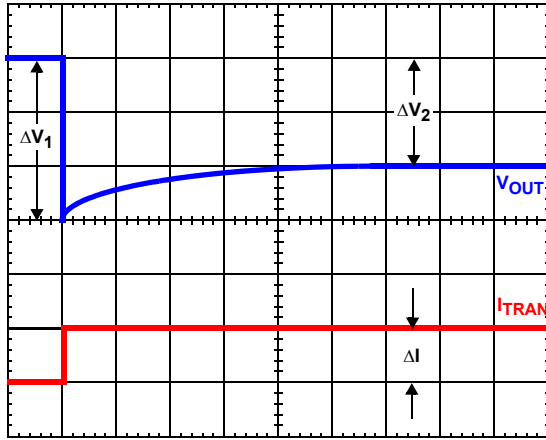

FIGURE 23. TIME CONSTANT MISMATCH BEHAVIOR
Due to errors in the inductance or DCR it may be necessary to adjust the value of  $R_1$  to match the time constants correctly. The effects of time constant mismatch can be seen in the form of droop overshoot or undershoot during the initial load transient spike, as shown in Figure 23. Follow the steps below to ensure the R-C and inductor L/DCR time constants are matched accurately.
2. Record  $\Delta V1$  and  $\Delta V2$  as shown in Figure 23.